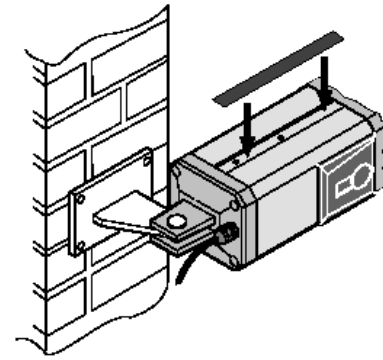

Figure 10
9. Attach the metal tag to the slot in the top section of the motor in order to blank off the holes present. Do not block the holes on the bottom of the motor (fig. 10).